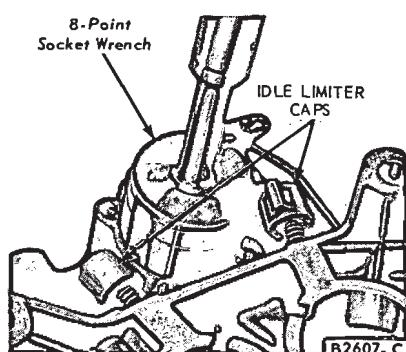

FIG. 15—Power Valve Removal or Installation
7. Invert the main body and remove the power valve cover and the gasket. Remove the power valve with a box wrench or socket wrench (Fig. 15). Remove the power valve gasket. Discard the gasket.
10. Invert the main body. Install the power valve (enrichment valve) and new gasket with a wrench (Fig. 15). Tighten the valve securely.